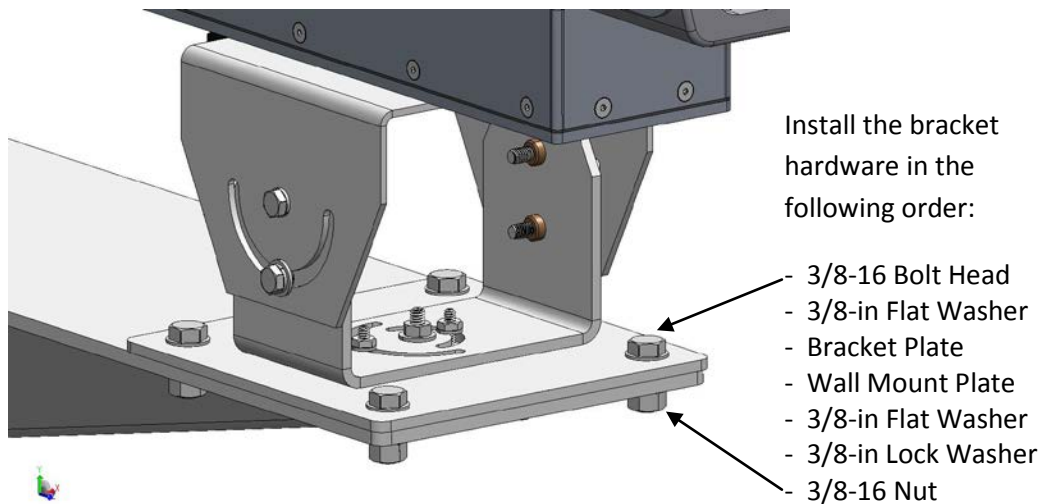

Figure 3 - Adjustable Head Bracket
- 2.2. Attach the bracket to the wall mount as shown in Figure 3.
- 2.3. Four 3/8-16 Hex Head bolts (stainless) are included with the bracket. Install the hardware in the order shown in Figure 3.